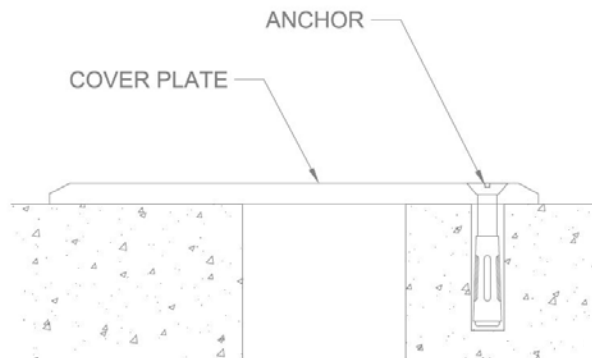

Figure 1
1. Cut and fit cover plate to required length, if installing more than one piece lay, out entire run to insure proper alignment. Make sure that the predrilled holes are lined up at least 1-5/8" from the edge of the expansion joint. **See Figure 1.**